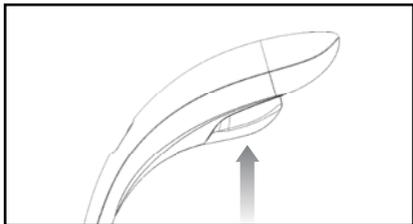

Figure 7. Port Applier trigger fully depressed
- Once the deployment head is properly positioned in the dissected pocket, apply pressure to the deployment head by pushing down on the applicator handle to ensure the Access Port is flat against the fascia and the instrument is steadied for firing. Firmly squeeze the RapidPort® EZ Port Applier trigger until the trigger is fully depressed (Figure 7) and the stainless steel anchors are deployed into the underlying fascia. At this point, the port will release from the tool. The instrument's trigger will lock in the depressed position. Do not release the trigger.